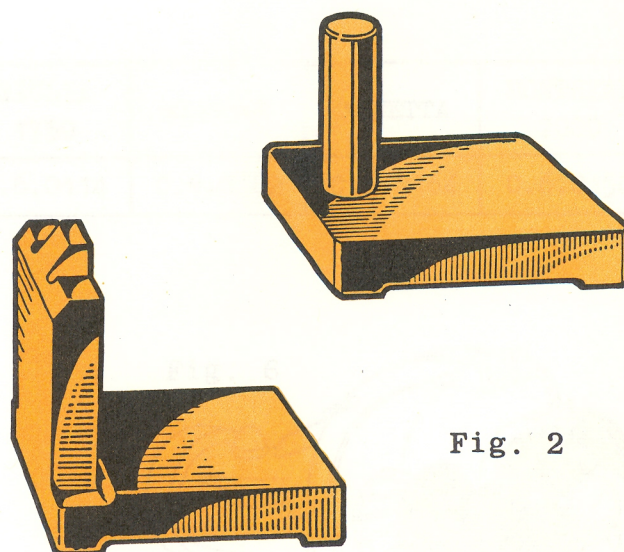

Fig. 2
**2** Zero set the dial gauge against the applicable reference gauge (see fig. 2) by adjusting in height the column "C"; tighten in place with the setscrew "D".